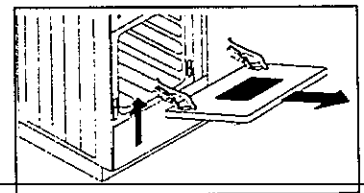

Fig. 13
- There is a small ring on each hinge. Pull the ring over the claw-like hook, which is part of the hinge mechanism. Do not forget to do this on both hinges before the next step. (See Figure 13)